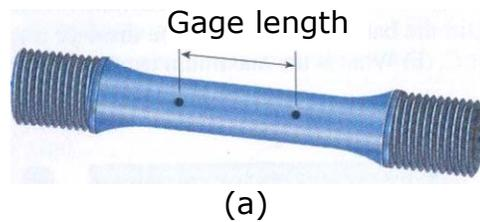

Fig. 4.10: (a) Measuring the gage length. (b) Measuring the diameter.
1. Use the Vernier caliper to measure the gage length and the diameter of the specimen as shown in fig. 4.10